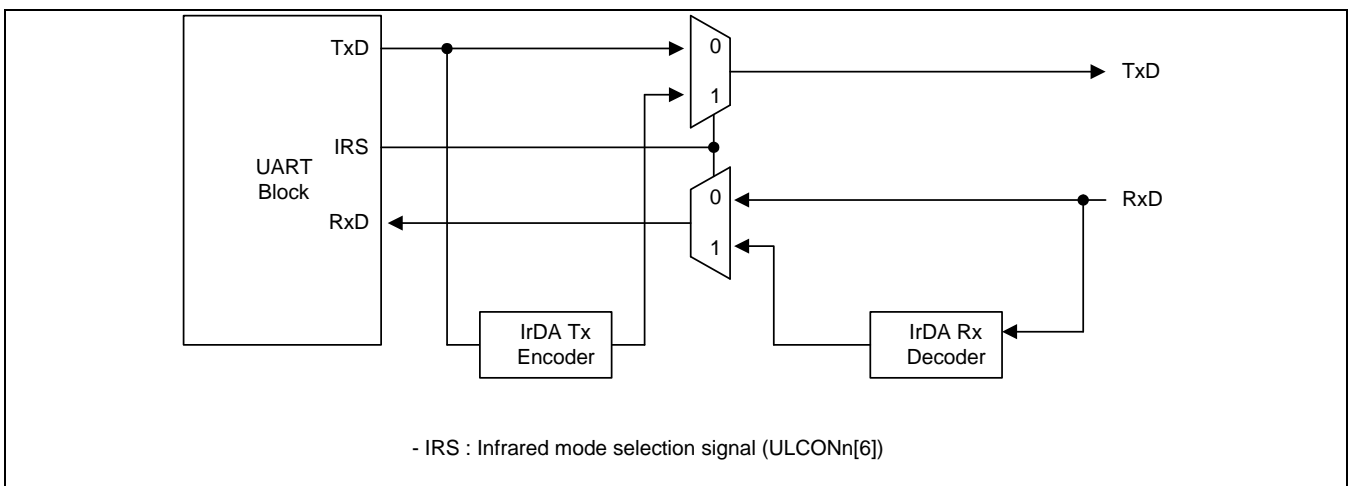

Figure 31-4. IrDA Function Block Diagram
31.3.7 INFRA-RED (IR) MODE
The S3C6410X UART block supports infra-red (IR) transmission and reception, which can be selected by setting the Infra-red-mode bit in the UART line control register (ULCONn). Figure 31-4 illustrates how to implement the IR mode.